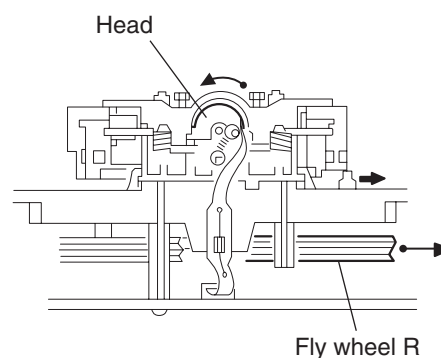

Fig.2
2. The head turns counterclockwise as you turn the flywheel R counterclockwise (See Fig.2 and 3).